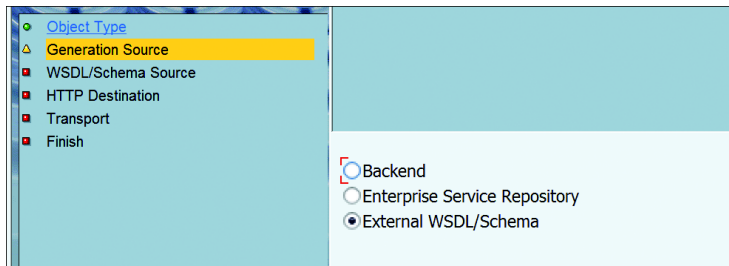

Figure 19.90 Select Generation Source
3. Select EXTERNAL WSDL/SCHEMA, as shown in Figure 19.90.